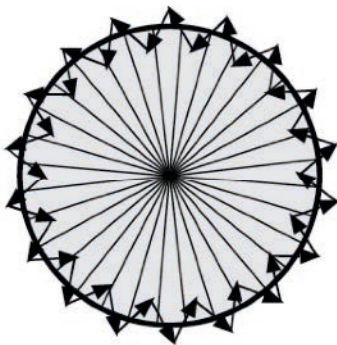

FIG.19
4. Walk from outside across to the detection pattern until red LED turns on for approx. 2sec then off, the next trigger should be 2sec interval (See FIG.19).